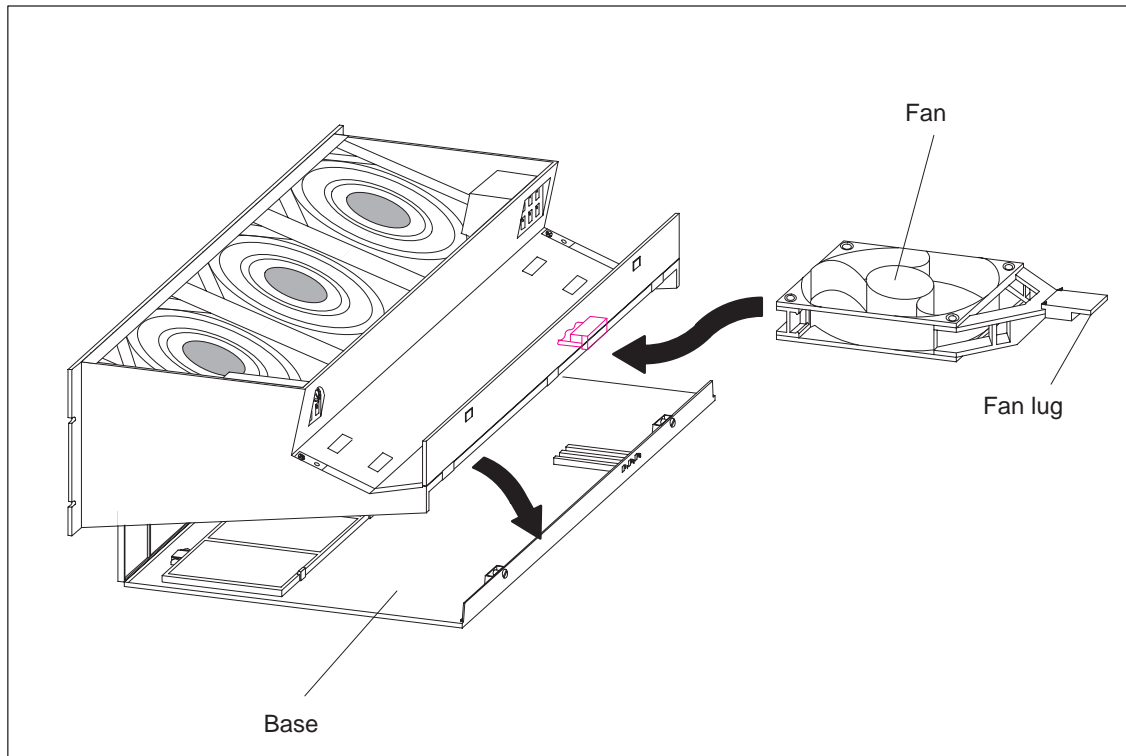

Figure 4-11 Releasing the Fan
3. Release the fan you want to replace by pushing the fan lug (Figure 4-11) away from the casing with your thumb.